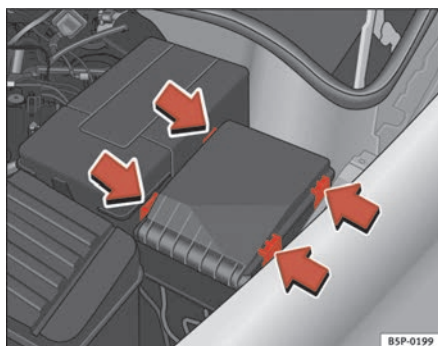

Fig. 184 Fuse box cover in engine compartment
- Prise off the fuse cover in the engine compartment by pressing the tabs towards the centre of the cover ⇒ fig. 184.